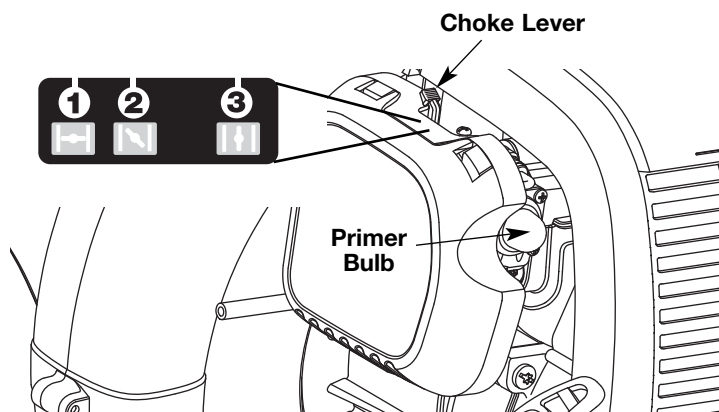

Fig. 15
3. Fully press and release the primer bulb 10 times, slowly. Some amount of **fuel should be visible in the primer bulb and fuel lines** (Fig. 15). If you can't see fuel in the bulb, press and release the bulb as many times as it takes before you can see fuel in it.
4. Place the choke lever in **Position 1** (Fig. 15).
IF... the engine does not start, place the choke lever in **Position 2** (Fig. 15) and pull 4 times in smooth and rapid pulls to start engine.
6. Place the choke lever in **Position 2** (Fig. 15) and allow the engine to warm up for 5–10 seconds.
7. Place the choke lever in **Position 3** (Fig. 15). The unit is ready for use.